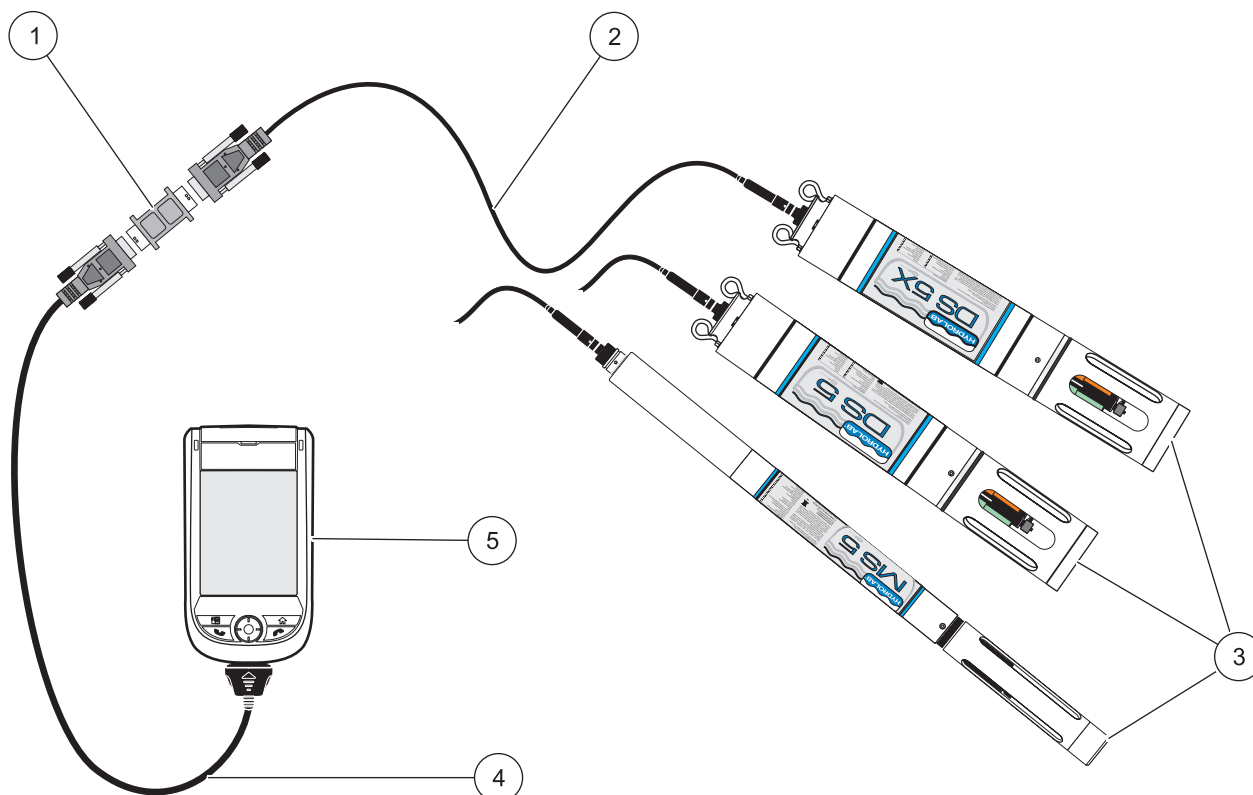

Figure 1 Typical configuration—PDA connection to sonde
Hydras 3 LT Pocket is compatible with Windows Mobile 2003 and Windows Mobile 5 software. Connection to a sonde requires a PDA to RS232 (DB-9) adapter cable with null-modem adapter (see Figure 1 on page 9).
Connect the PDA to the sonde as detailed in Figure 1. The PDA to RS232 adapter cable is available from most PDA suppliers.
1. Connect the PDA to the sonde using a PDA to RS232 cable and null-modem adapter as detailed in Figure 1.